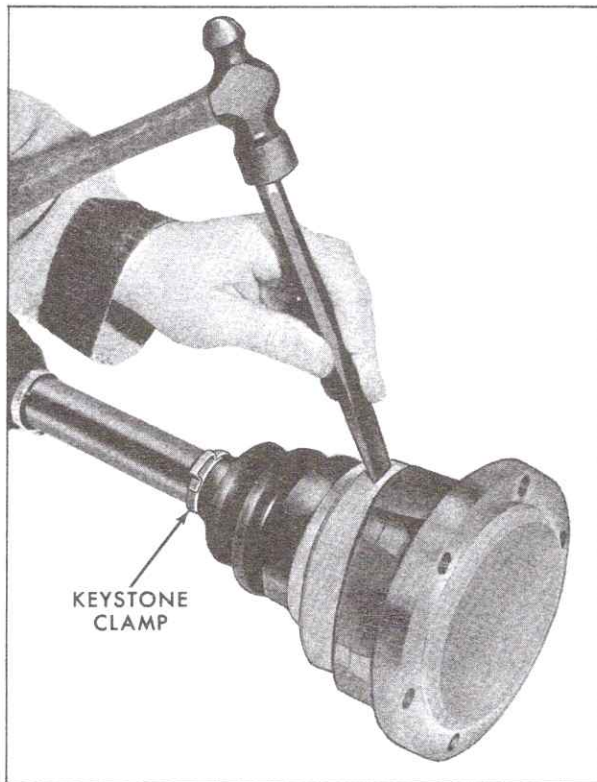

Fig. 3-59 Installing Seal Adapter on Joint Housing
15. Position seal adapter over lip on joint housing and stake as shown in Fig. 3-59.